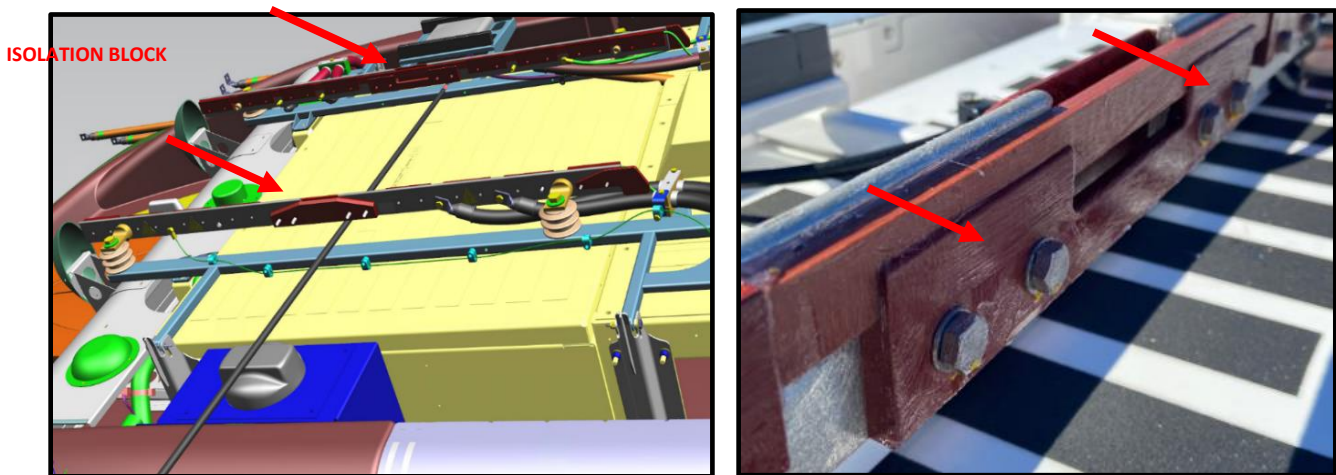

Figure 1: Application of Silicone paste on Isolator Block
8. Clean isolation blocks as shown in figure 1 with isopropyl alcohol solution- Item 1 (NF part number- 134336).